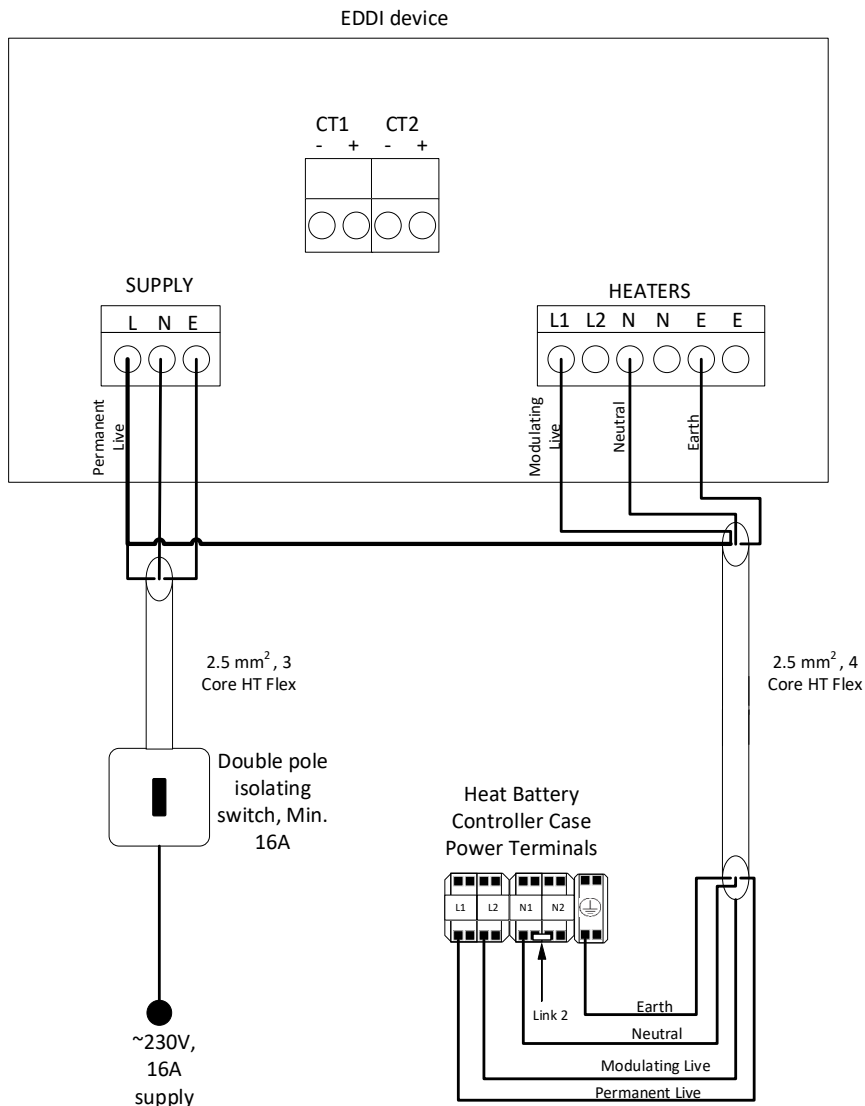

Figure 15: Exemplary Solar Power Diverter wiring - "MYENERGI EDDI"
- Prepare if necessary and wire the mains power cable from the Sunamp Controller in the following terminals on the Solar Power Diverter (Figure 15):
- Prepare if necessary and wire the mains power cable Solar Power Diverter (Figure 15):